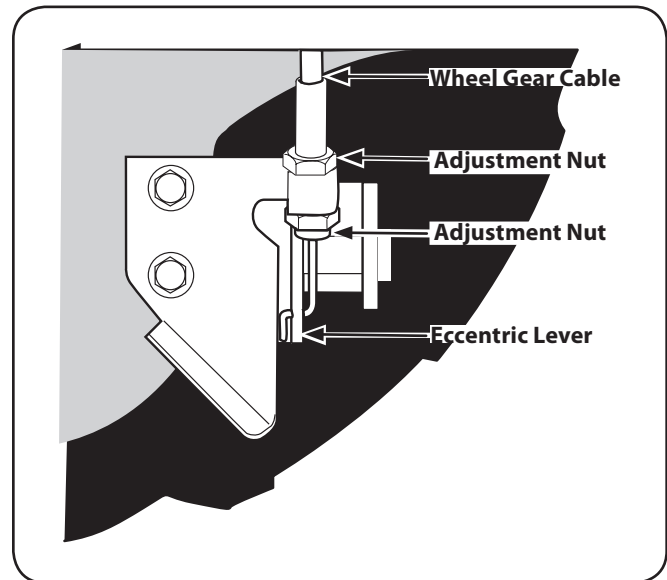

Figure 6-3
2. Loosen the top adjustment nut on the wheel gear cable bracket that is located on the left side rear of the transmission. See Figure 6-3.